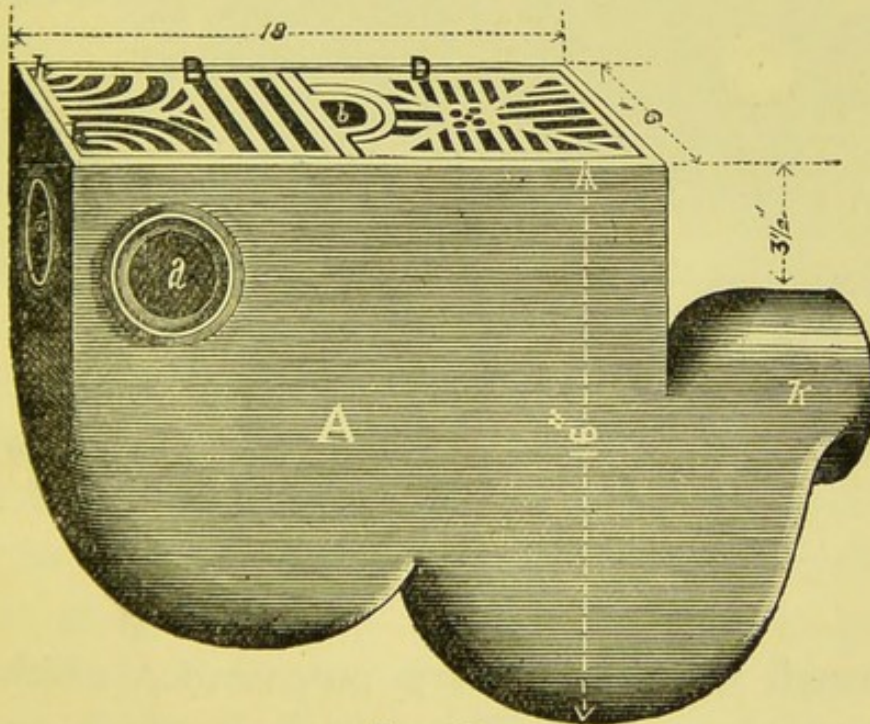
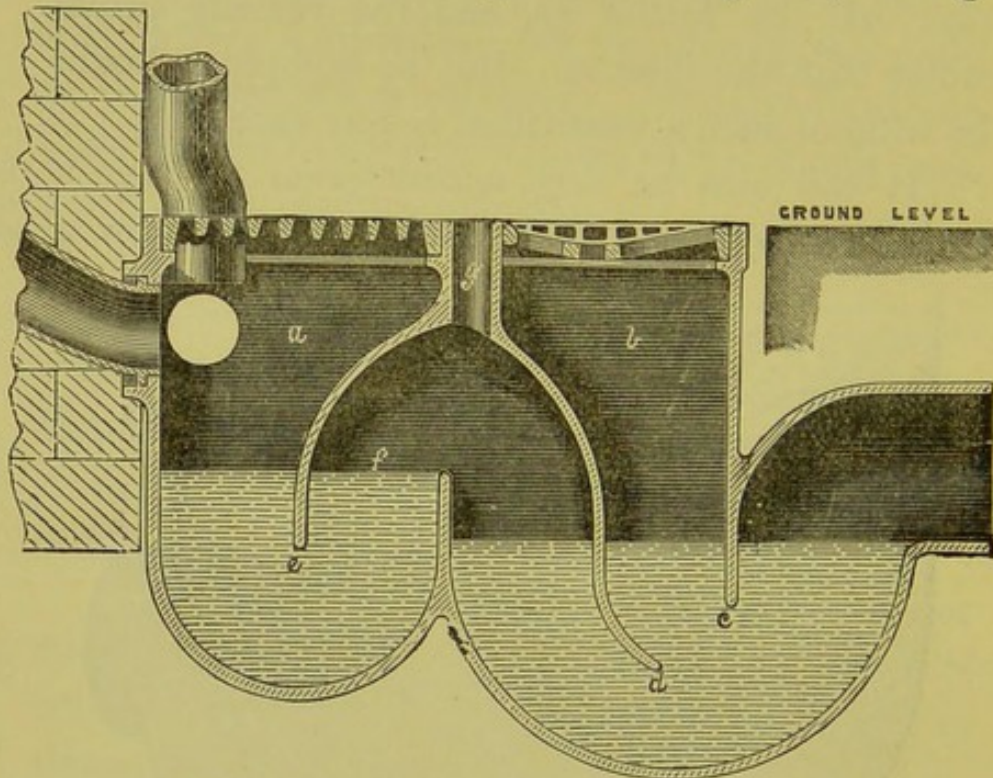

FIG. 16.
FIG. 17. LONGITUDINAL VERTICAL SECTION.
*Patent "Triple-dip Trap, or Waste-receiver and Drain-interceptor."*—The writer has taken out a patent for this trap. It can be made in any size, but the size, as given in Fig. 16, is large
enough for almost every purpose for which it should be used. The trap is made in cane-coloured pottery-ware. Fig. 16 shows a view of this trap, and Fig. 17 a section.
The compartment *a*, Fig. 17, is used exclusively for receiving waste-pipes from baths, lavatories, sinks, and such-like wastes, but *not for sewage wastes*. Section and description.
The compartment *b*, Fig. 17, is for taking away the surface drainage, when the trap is fixed in the area, yard, or any such place; and also for providing a way of escape into the open air for any strong current of air blowing through the drain, and for preventing its passing into the waste-receiving compartment, where the ends of the various waste-pipes are left open.
There are *three* water-dips (or water-locks) in this trap, and before any noxious gases from the drain can get to the waste-pipes emptying themselves into the waste-receiving compartment, they must push their way through two separate bodies of water and three water-dips—*i.e.*, a depth of  $3\frac{3}{4}$  in. at the first two dips, and another depth of 2 in. at the third dip. The dip *c*, Fig. 17, goes down into the water  $2\frac{1}{2}$  in.; the dip *d*, Fig. 17, goes down  $1\frac{1}{4}$  in. lower into the same water. The dip *e*, Fig. 17, is in another compartment, and goes down into the water  $2\frac{1}{2}$  in. Three water-dips.
Suppose a strong current of air to be blowing up through the drain, and to force its way through the *first* dip, *c*, Fig. 17, it would at once escape Difficult for any current of air to pass from the
into the external air through the compartment *b*, Fig. 17, for the *second* dip, *d*, Fig. 17, is  $1\frac{1}{4}$  in. lower in the water. But even supposing this strong current of air in the drain forces itself under dip *d*, as well as *c*, into the compartment *f*, Fig. 17, it would at once escape through the air-pipe, *g*, and would never get into the compartment *a*, under the *third* dip, *e*, Fig. 17.
The top of the trap is protected by two separate galvanised iron gratings, as shown in Fig. 16, that to the waste-receiving compartment is fitted to the pipes entering into the trap, and that to the other is sunk to receive the surface-water.
Means are provided by a countersunk hole, as *a*, Fig. 16, in each of the three sides of the waste-receiving compartment, to receive "horizontal" waste-pipes, and when not required, such holes are filled up with a stopper, of the same ware as the trap, made for the purpose; or the waste-pipes can be taken in at the top, as shown in Fig. 17. When the pipes enter at the top they must not go more than 3 in. into the trap, or down to the same level as the pipes entering at the sides, so that the *ends* in each case may be